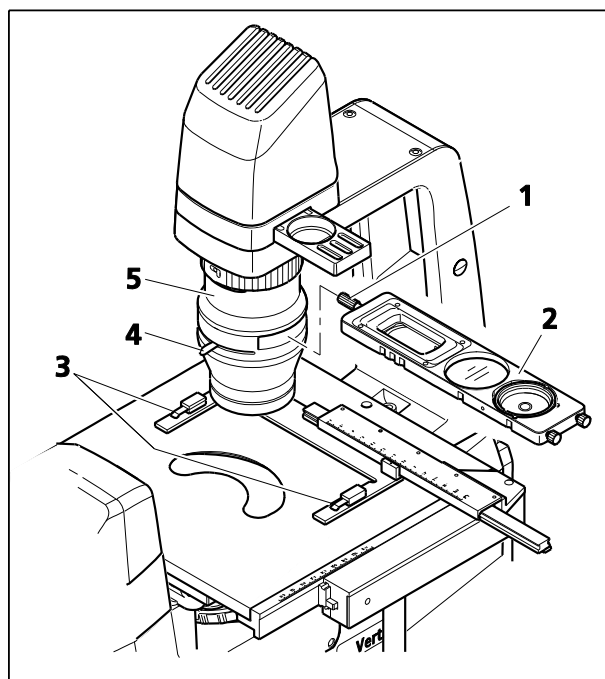

Fig. 4-6 Setting VAREL Contrast
Open the aperture diaphragm (Fig. 4-6/4) on the condenser (Fig. 4-6/5) completely.
Using a fitting mounting frame, insert the specimen into the retaining clips (Fig. 4-6/3) of the object guide.
Move the VAREL position of the Ph/PlasDIC, H, VAR slider (Fig. 4-6/2) into the light path until the notch for the currently selected specimen magnification has been found. There are three different notches for VAREL.
- The contrast desired can be adjusted via the setscrew (Fig. 4-6/1).